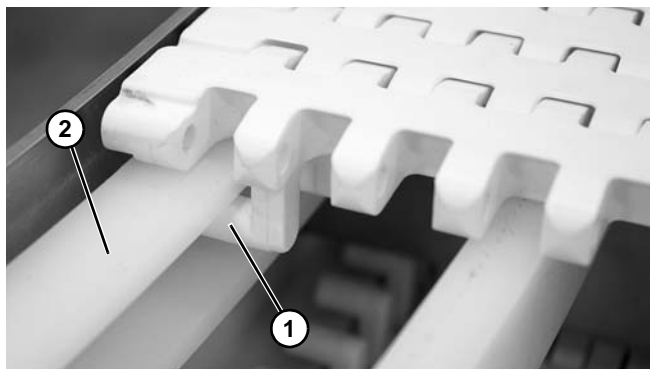
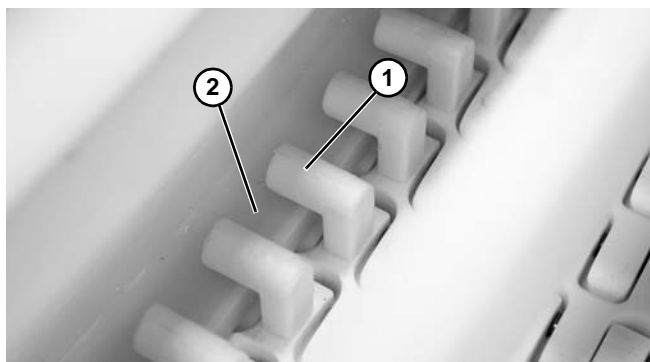

Figure 12
Figure 13
4. Feed the ends of the belt through the top and bottom of the curved frame sections. Make sure the belt tabs (**Figure 12, item 1**) and (**Figure 13, item 1**) are properly engaged with the wearstrips (**Figure 12, item 2**) and (**Figure 13, item 2**).